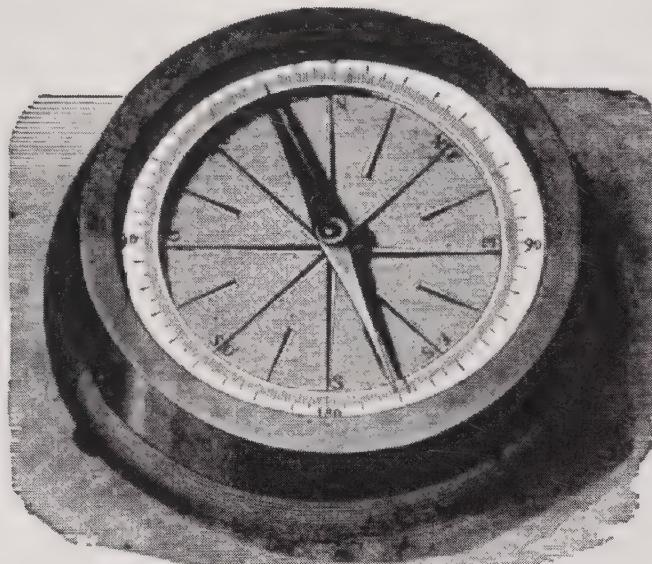

Fig. 71. A Compass marked with Degrees as well as the Points of the Compass.
*Answer.* The usual compass is a magnetic needle suspended over a card bearing the names of the points of the compass and sometimes the  $360^{\circ}$  of the circle are marked out. Fig. 71.